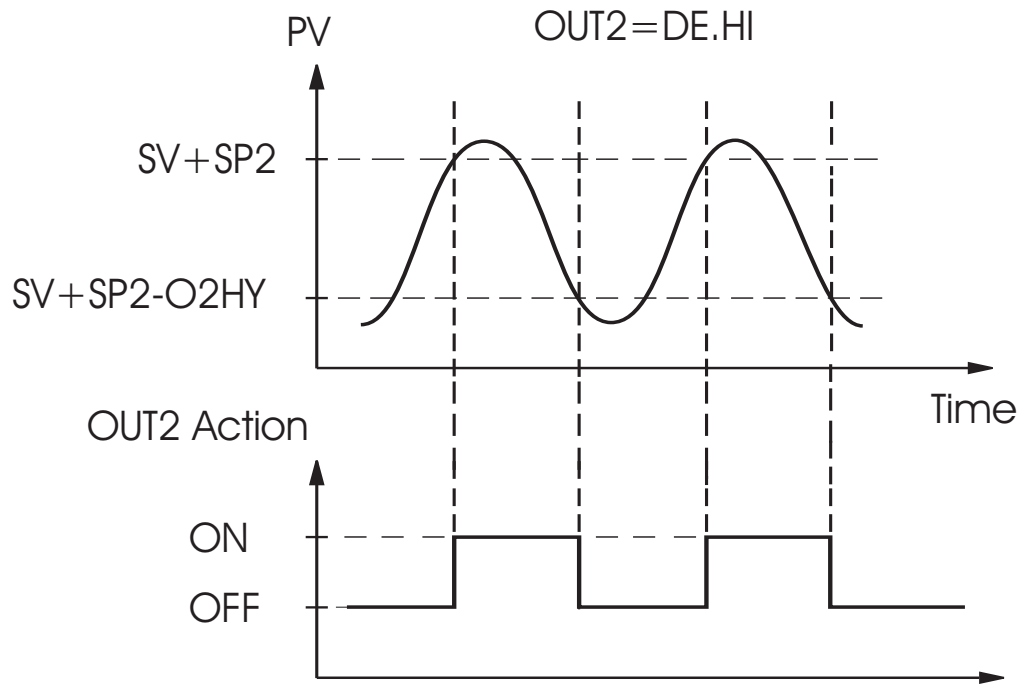
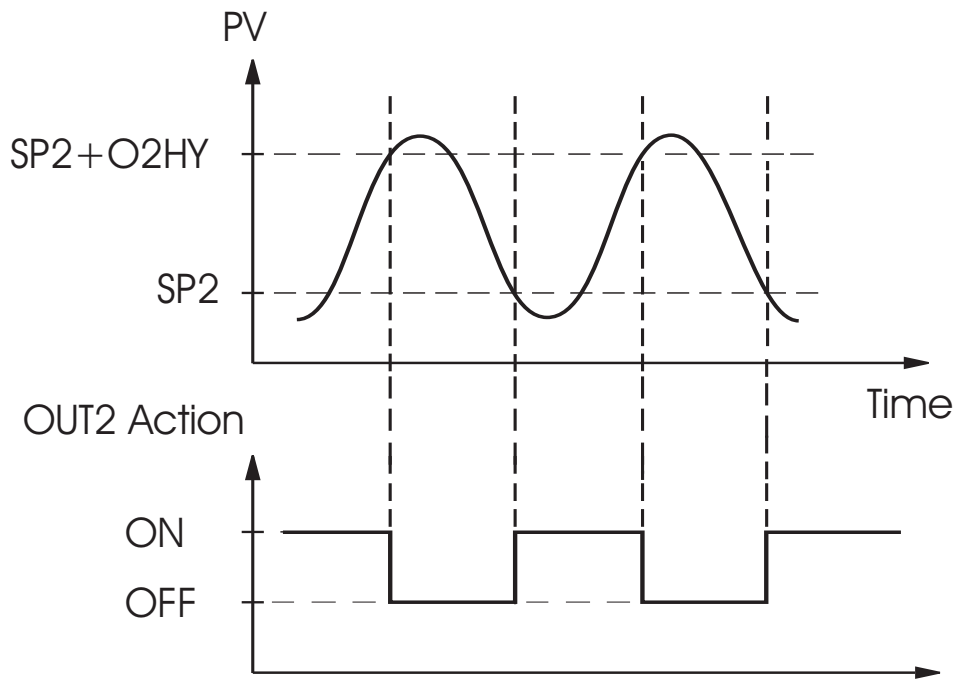

Figure 3.3 Output 2 Deviation High Alarm
Figure 3.4 Output 2 Process Low Alarm
**Output 2 ON-OFF Control ( Alarm function ):** The output 2 can also be configured as alarm function. There are 4 kinds of alarm functions can be selected for output 2, these are: DE.HI (deviation high alarm ), DE.LO (deviation low alarm ), PV.HI (process high alarm ) and PV.LO ( process low alarm ). Refer to Figure 3.3 and Figure 3.4 for the description of deviation alarm and process alarm.